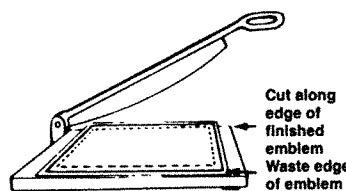

Figure 8
D. Trim to size or cut to shape (Figure 8).